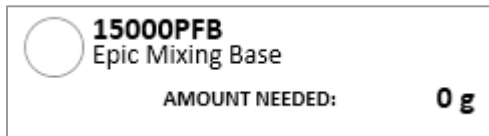

Figure 31 Material deduction shown on left side of screen (Required Materials)
5. Notice after you check off the “SELECT” check box the amount needed for the selected ingredient updates accordingly. (Figure 31)